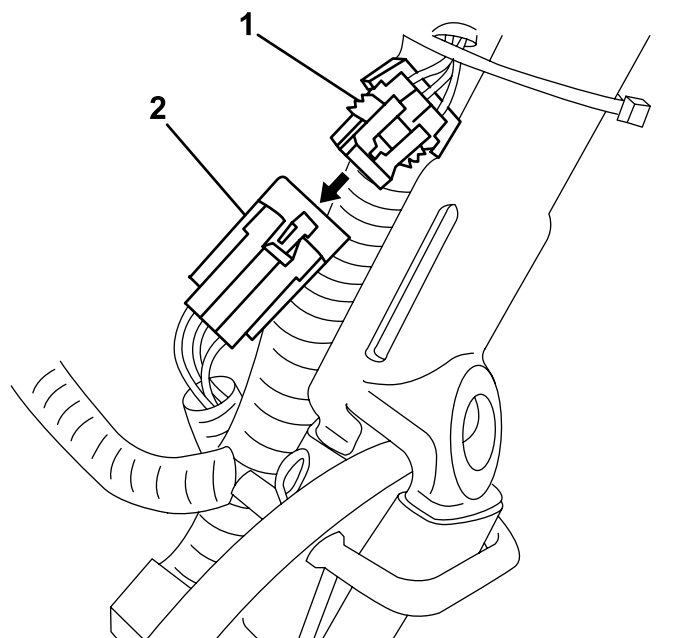

Figure 10
3. Disconnect the small connector on the pack to the machine wire harness from the main wire harness (Figure 10).